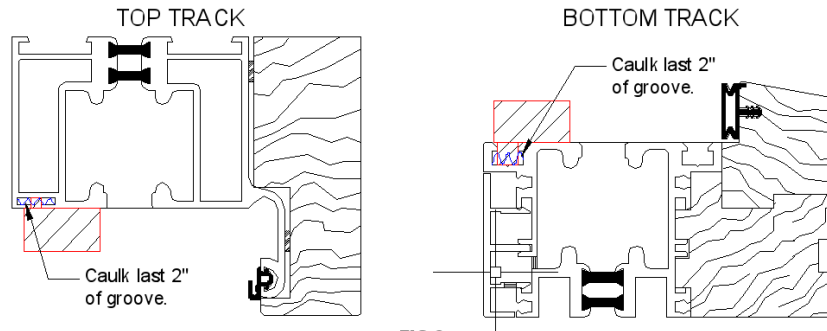

FIG 3.
- Caulk ends of both jambs as shown in Fig's 1 thru 3 depicted by squiggly (FIG 3 on next page). Pre screw in 2 (#10 x 4" FH Screw) into top and bottom pre-drilled holes on both jambs for ease of installation.
- c) Caulk the last 2" of the outside groove of both top and bottom tracks before inserting jambs, as shown in FIG 3.
- d) Each jamb has a jamb insert top and bottom; the thicker Insert is at the bottom of the jamb and will be inserted into the outside groove of the bottom track. The thinner jamb insert is at the top of the jamb and will insert into the outside groove of the top track. (See FIG 3).